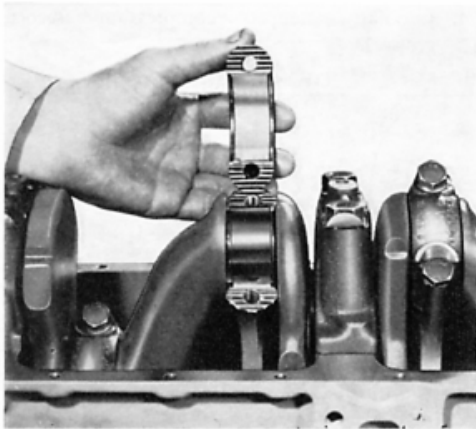

Fig. H.1.
3. Remove the connecting rod caps and bearing shells. (Refer to Fig. H.1).